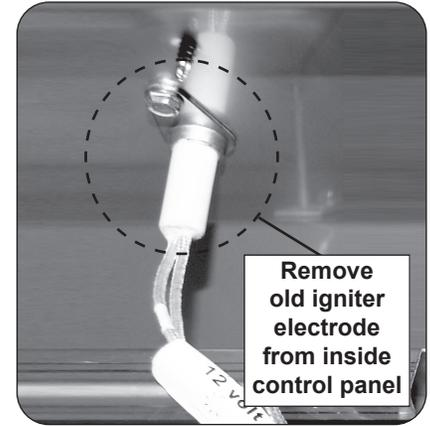

Fig. 7-1 Remove old igniter
1. Remove the old igniter electrode from inside the control panel using a 1/4" hex nut driver. See Fig. 7-1.